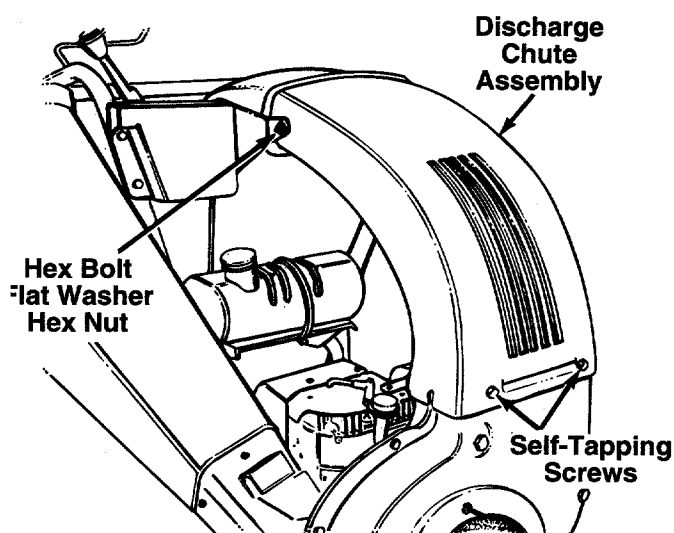

FIGURE 13.
3. Remove the four self-tapping screws from the bottom of the discharge chute, and the hex bolt, flat washer and hex nut from the top. Remove the discharge chute assembly. See figure 13.